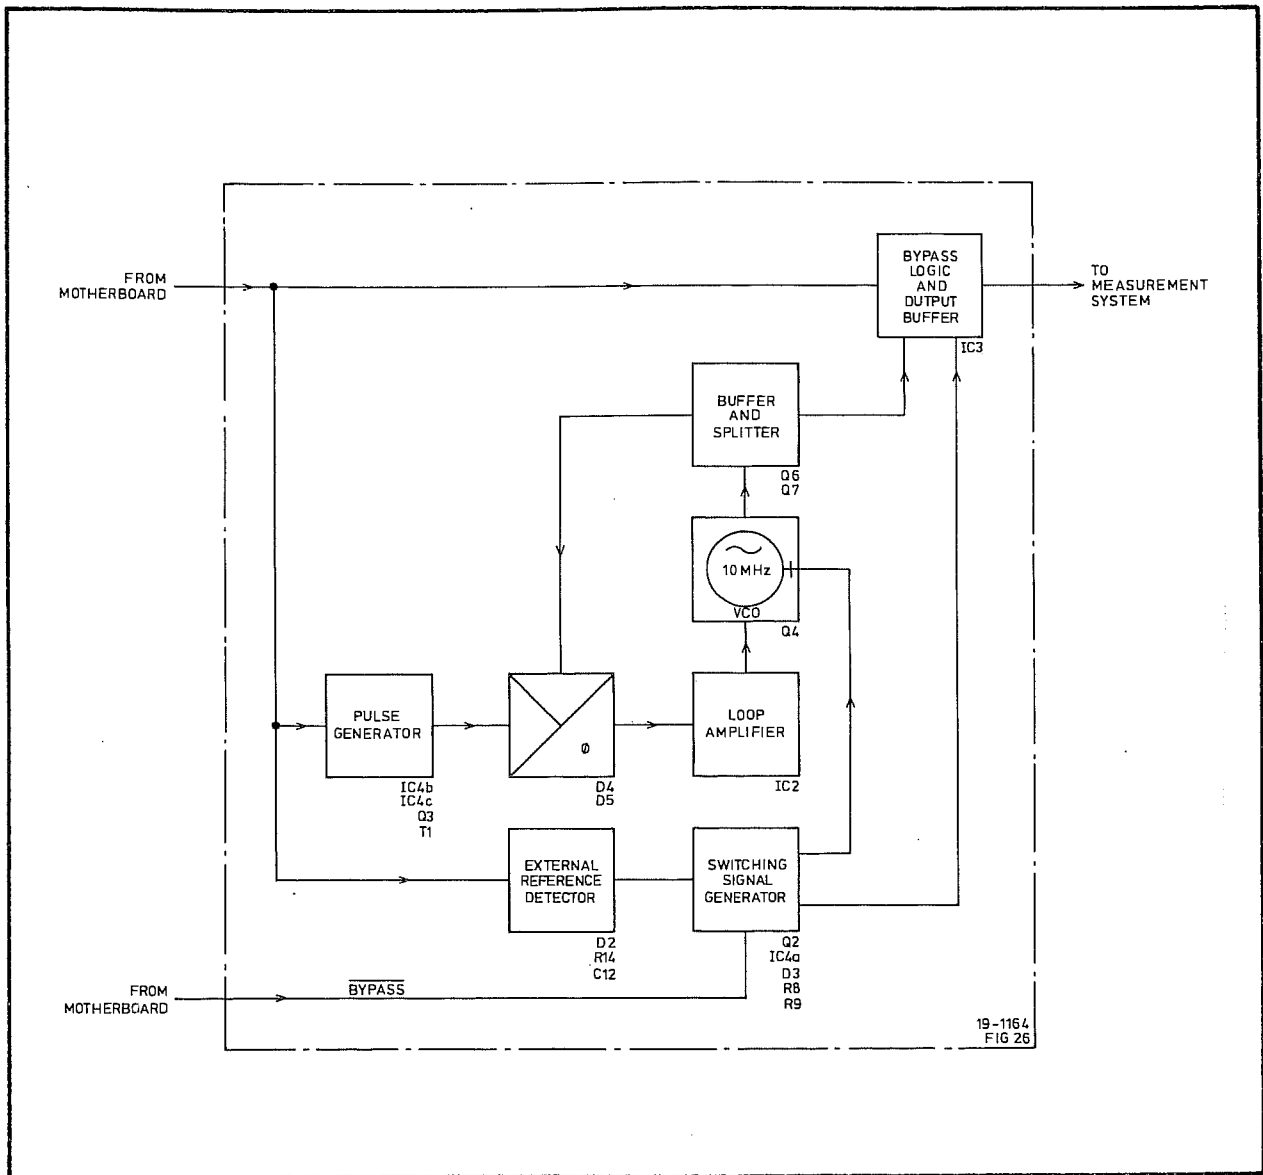

Fig. 6.17 The Reference Frequency Multiplier
- 179 The block diagram of the multiplier is shown in Fig. 6.17. The input to the circuit is taken from the EXT STD INPUT connector on the rear panel, via a signal conditioning circuit on the motherboard. The output of the circuit is passed to the measurement system. The NOT BYPASS control line is held at logic '1' by the +5 V STANDBY supply.